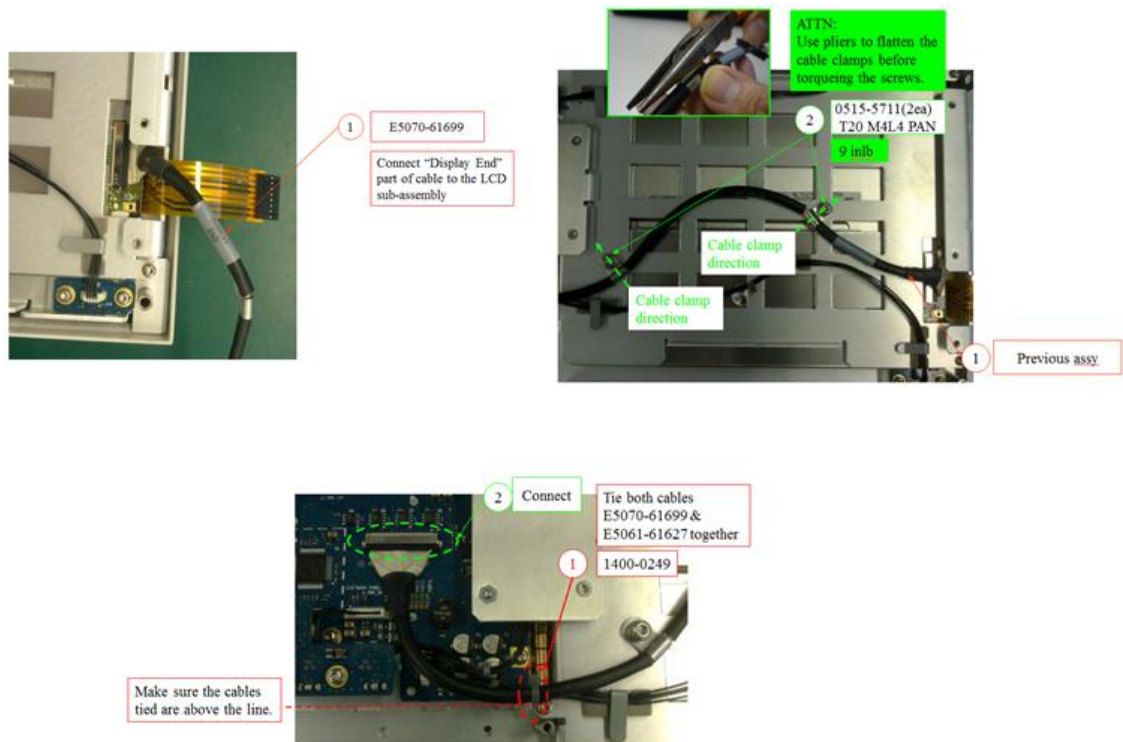

Figure 1-10
9. Connect the LCD T/P display cable assembly as shown. Fasten the screws in securing the cable. Tie the LCD T/P Display cable assembly to the Power switch cable assembly as shown in figure 1-10.